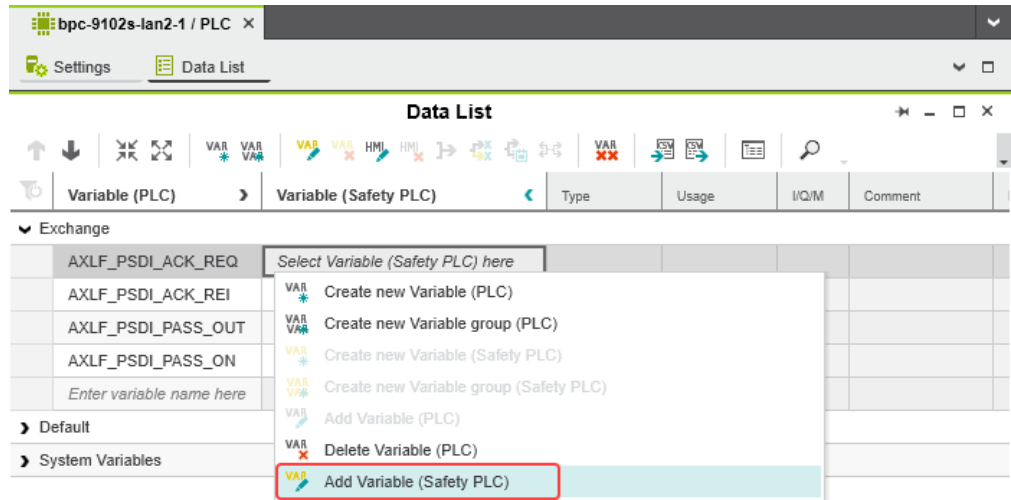

Figure 6-39 “Add Variable (Safety PLC)” context menu
- In the “Variable (Safety PLC)” column, select “Add Variable (Safety PLC)” in the context menu for each variable you created earlier in turn (see Figure 6-39).